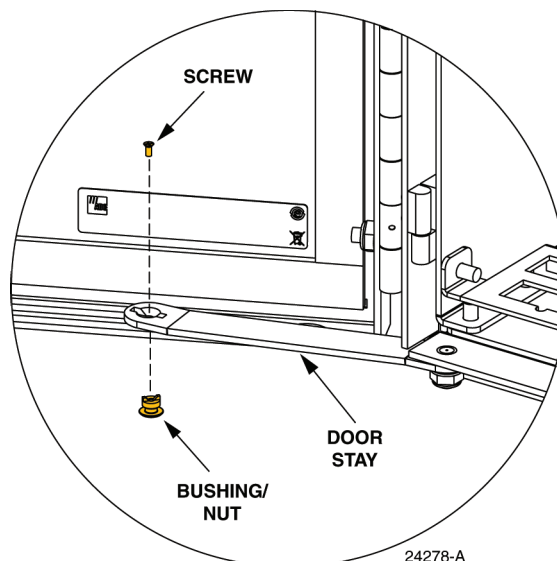

Figure 29. Door Linkage Hardware
16.4.3 Use a Phillips screwdriver to remove the screw and bushing/nut that secures the door stay to the bottom of the door as shown in Figure 29. Save the screw and bushing/nut for reuse.